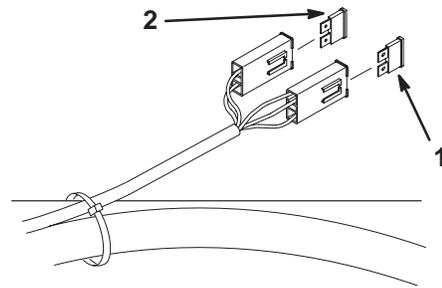

Figure 65
- To replace a fuse, pull out on the fuse to remove it (Fig. 65).